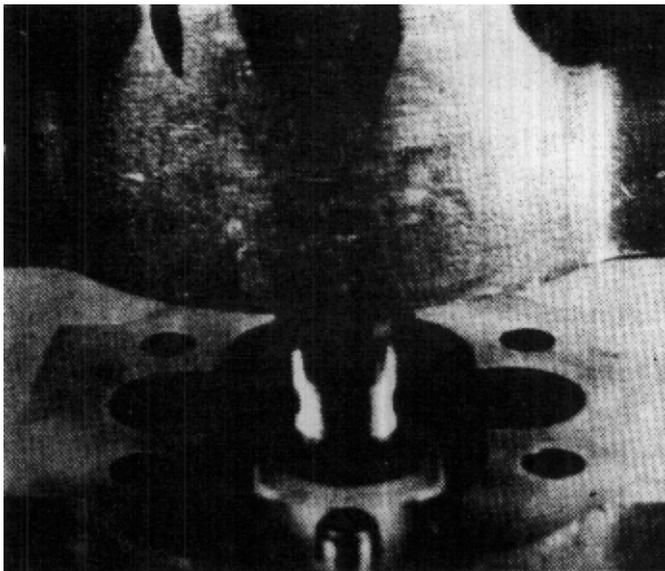

FIGURE 101
40. With the mark made in Step 2 facing you and the o-ring facing down, the shaft until it makes contact with the dowels. Caution should be used from this point on to prevent the bearings from pinching or upsetting the back-up rings as the body is lowered onto the dowels. (Fig. 101)